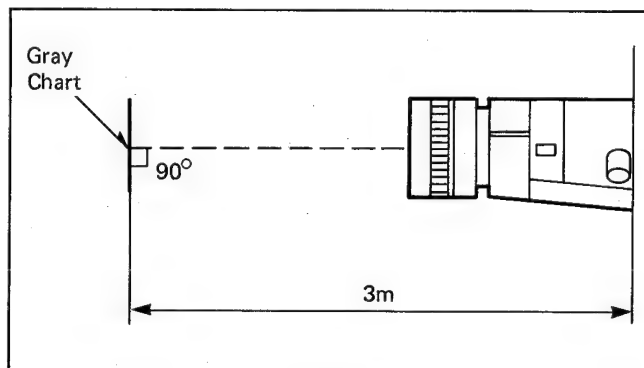

Fig. 6
3. Aim the camera at the Gray Chart (VEKW0009) as shown in Fig. 6.